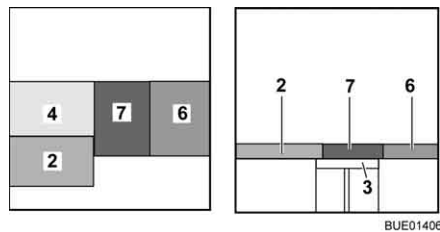

Fig. 150 After conversion
- Place the seat cushion (Fig. 150,7) in the centre.
- Place the back cushion (Fig. 150,6) between the seat cushion and the wall.